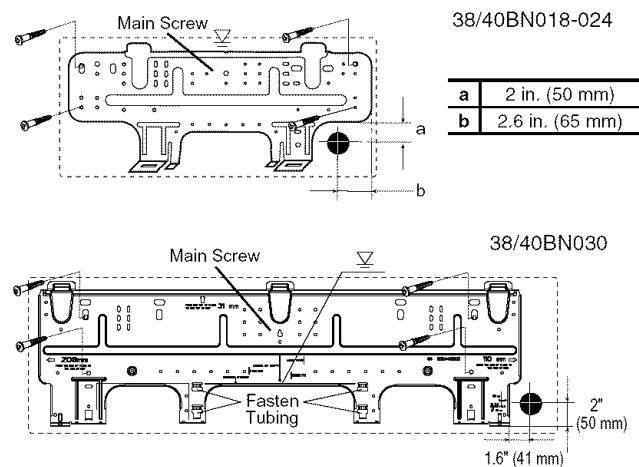

Fig. 4 — Mounting Bracket
3. Mark the four drilling holes on the wall, as they appear in Fig. 4.
1. Mark the center of the hole to be drilled according to the refrigerant line routing used and dimensions shown in Fig. 4.